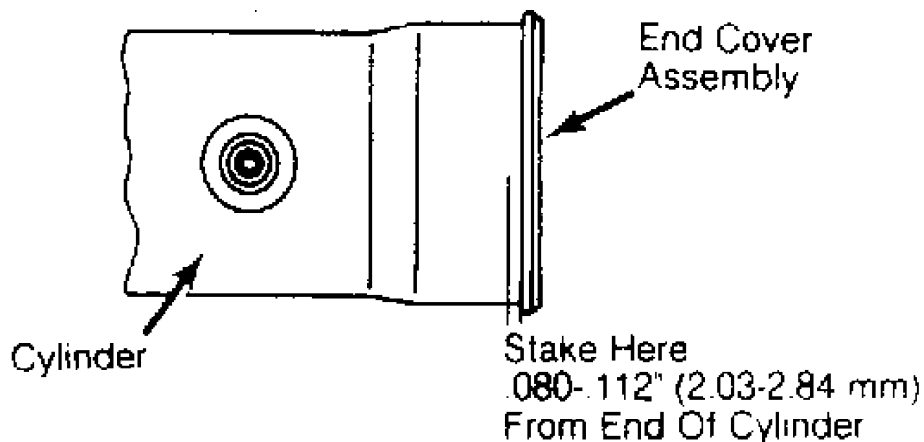

Fig. 4: Positioning Stake Area For Cylinder & End Cover
3) Drill staked portion of gear housing end. See Fig. 4. Remove end cover assembly. Draw out rack assembly. Using a heat gun, heat rack seal ring to approximately 104°F (40°C). Remove rack seal ring. Using a tape-wrapped socket and extension bar, remove center bushing and rack oil seal. DO NOT scratch inner surface of pinion housing.
5) Tighten end cover assembly. Stake gear housing to cover assembly. See Fig. 4. Set rack gear in neutral position. Measure rack stroke. See Fig. 5. See RACK STROKE SPECIFICATIONS table.